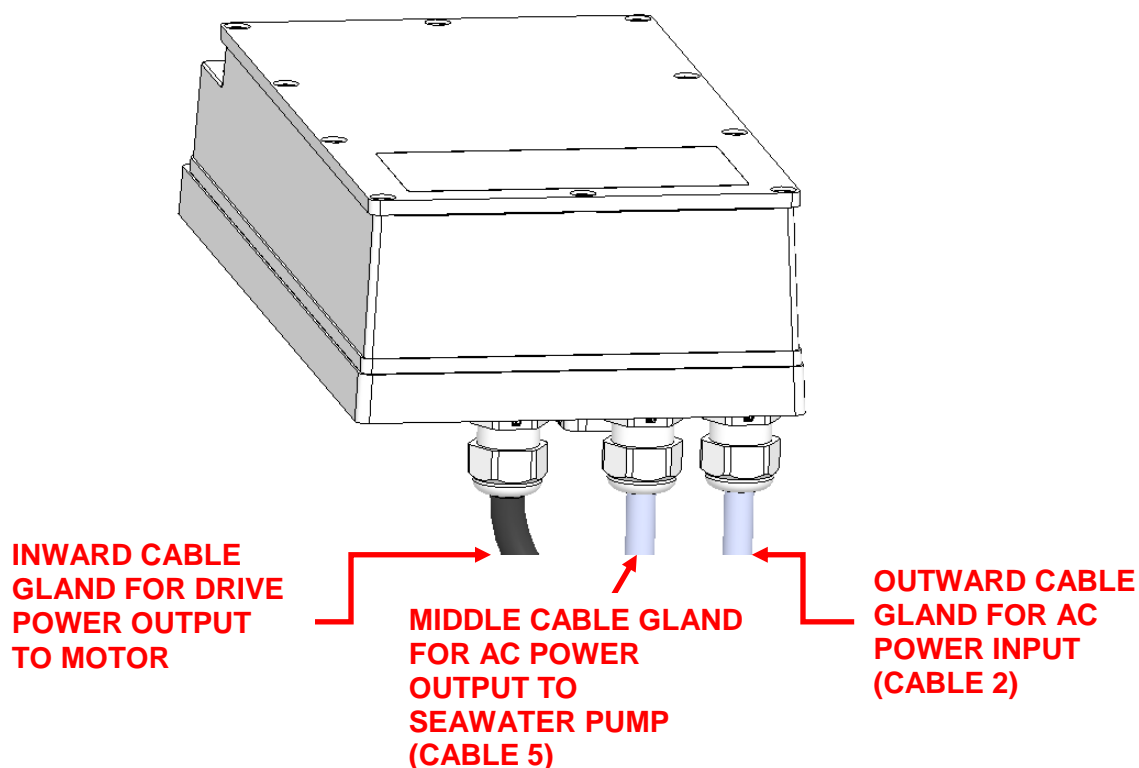

FIGURE 2 – MOTOR DRIVE BOX AC POWER INPUT & OUTPUT CABLE GLANDS
- i. Locate CABLE 5 for AC power output to the Seawater Pump from the Drive Box at the middle of three cable glands. (See Figure 2.)
- i. Locate CABLE 5 for AC power output to the Seawater Pump from the Drive Box at the middle of three cable glands as shown in Figure 2.